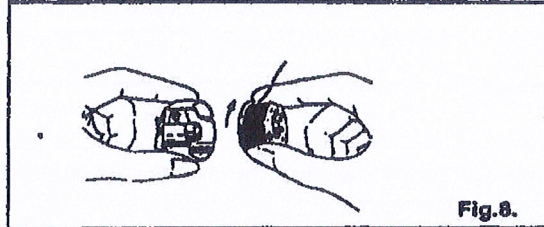

Fig. 8.
1. Hold bobbin case so that thread unwinds in the direction shown in Fig. 8. and put bobbin in bobbin case.
4. Winding thread around the shuttle core (see Figure 8)